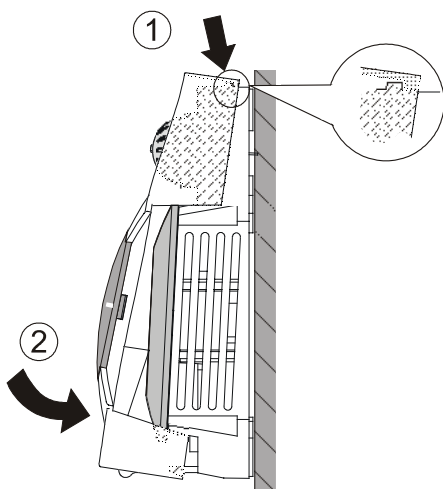

Fig. 5. Mounting cover of T7460 wall modules.
8. Remount the cover as depicted in Fig. 5 and make